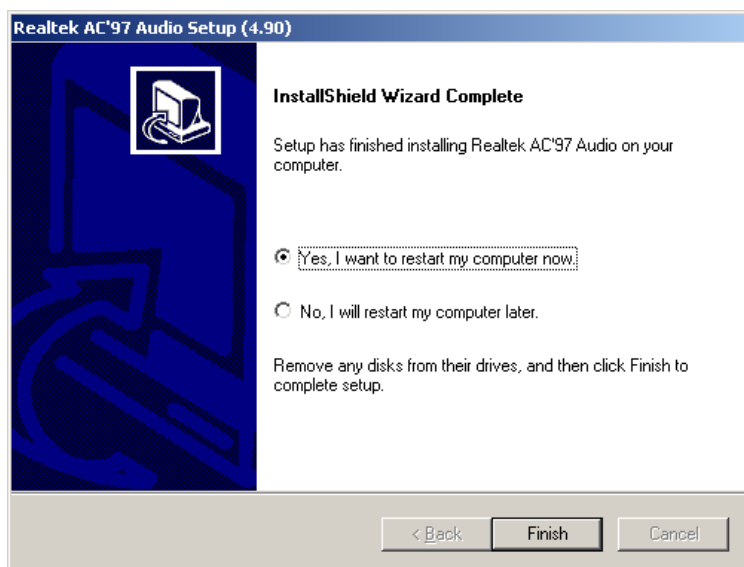

Figure 7-46: Restart the Computer
Step 14: After the driver installation process is complete, a confirmation screen appears (**Figure 7-46**).